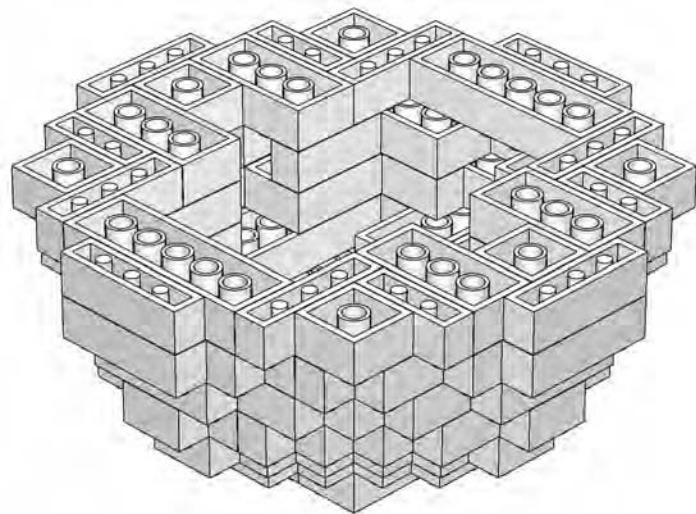

Figure 7-11: Step 8. Before you start the second half of the model, turn the whole thing so that the tubes are facing up.
Step 8 doesn't add any bricks to the model but just changes the orientation of the sphere. This is called a *rotation step*, and that's exactly what you do. Take the sphere and rotate it 180 degrees until it looks like Figure 7-11.